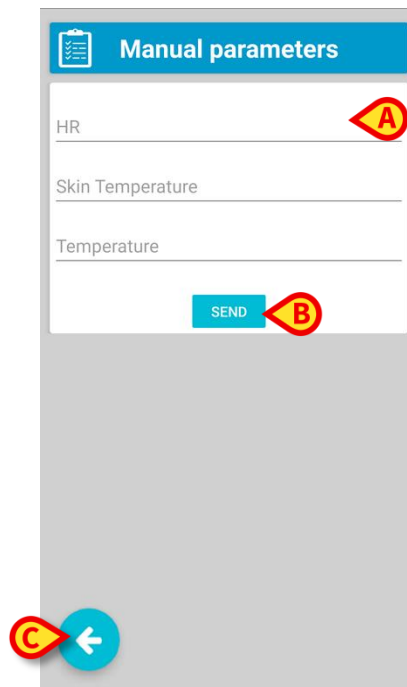

Fig 12
Fig 12 is displayed.
The list of available parameters changes according to the configuration (in the example: HR, Skin Temperature and Temperature). For data entry, tap any field to display the standard Android keyboard. All fields must be filled (Fig 12 A).
- Tap **Send** (Fig 12 B).
Use the **Back** button (Fig 12 C) to quit.